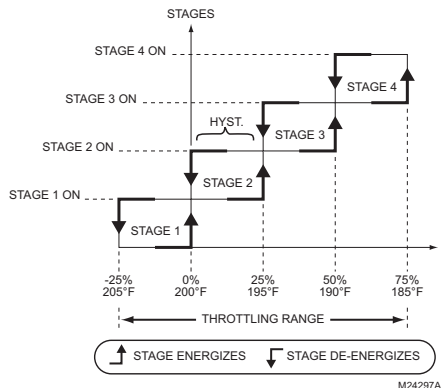

Fig. 18. Staging Behavior (when effective Setpoint = 200°F).
Staging occurs as illustrated in Fig. 18 for a Heat setpoint of 200°F and a throttling range of 20°F when the Integral value is zero (0). When the Integral is not zero, then the actual temperatures at which stages energize and de-energize will vary from this example; see "1.3.3.2. INTEGRAL" on page 17.